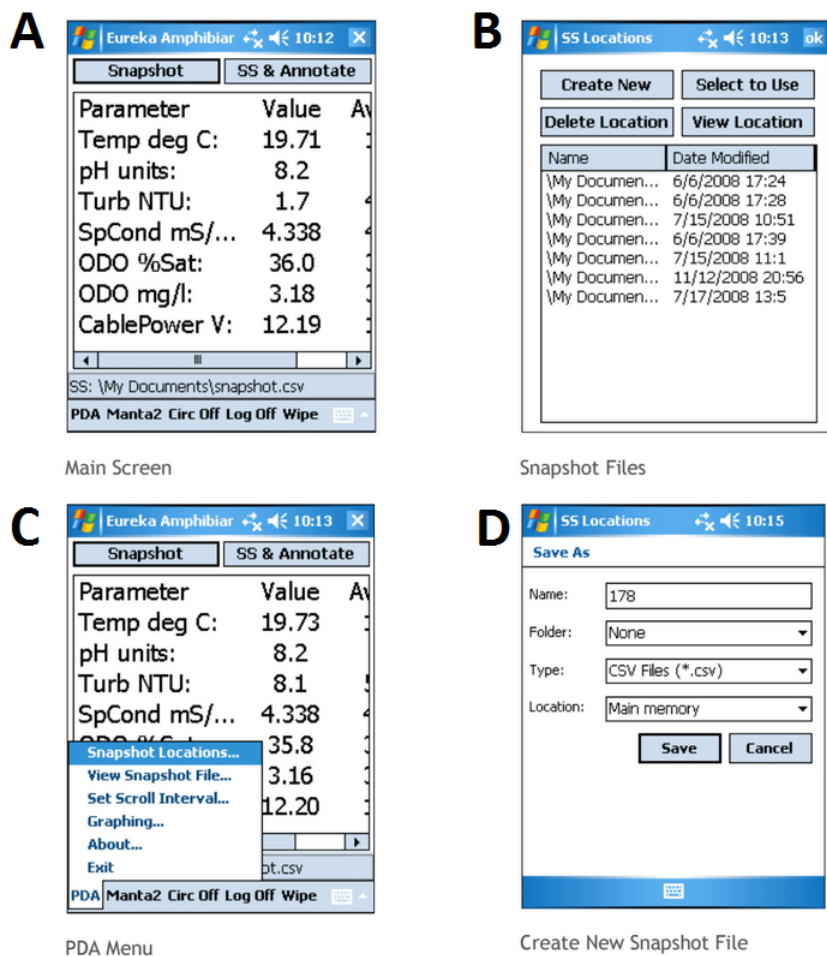

Figure 1: Amphibian Working Screens
**10.1** Connecting the Manta. Connect and power on the Manta to the Amphibian Portable PC as before. Adjust screen brightness using short-cut buttons **arrow up + P3** and **arrow up + P4**. When you open the Amp\_2.2\_6, the Main screen will appear(A) (Figure 1). This is where you will see data readings. To log, or store, one line of data take a ”snapshot” with the top left button (A). To locate snapshots, open the PDA menu in the bottom left corner and select ”snapshot locations”(B). In the SS locations screen (C) you can edit your files or create a new one. When creating a new file (D), annotate using the guidelines in 10.5. To see data presented graphically, open the PDA menu and select ”graphing” (B). To exit the program, again open the PDA menu and select ”Exit.”